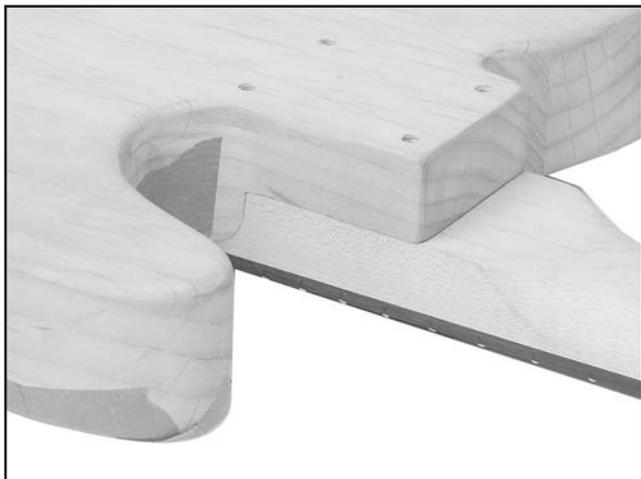

Figure 7. Making neck and body flush.
1. Insert the neck into the neck pocket, and check to make sure the neck and body are flush, as shown in **Figure 7**.